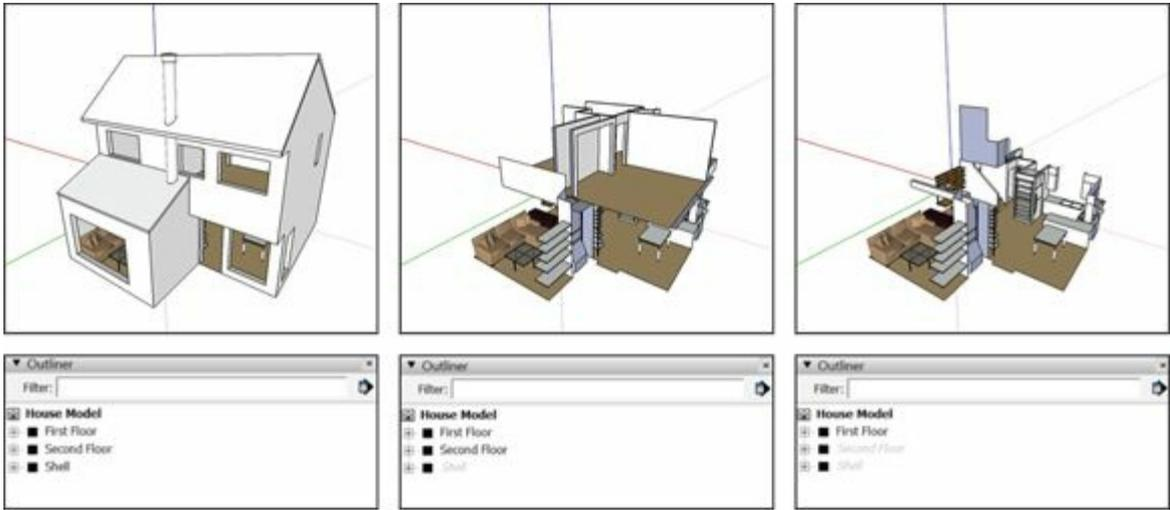

FIGURE 7-5: Each floor of the house, as well as the roof and the exterior walls, is a group.
- » **The roof and exterior walls are groups inside of another group.** To remove the roof and the exterior walls separately, each needs to be a group. However, to hide and unhide them both at the same time, Aidan made a Shell group that includes them both. With this setup, he can selectively show or hide just the geometry he wants to see. See Figure 7-5.